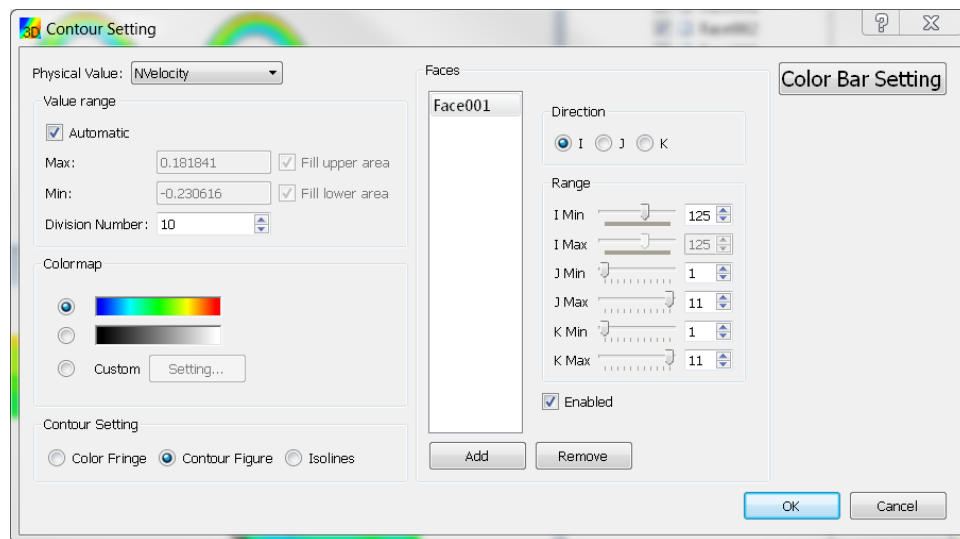

Figure 4. Contour settings for Panel 3.
- Right-click the **iRICZone / Contour** branch of the Object Browser, select the Property pop-up menu and in the Contour Setting dialog create 8 faces oriented in the I Direction. Each I face is set at multiples of 25 (1,25,50,100...) as shown in Figure 4 below.
Following the process in step-2 above for adding cross-sections to the 3D view we'll build a single cross-section as shown in Figure 4. Next add vectors to the cross-section as shown in Figure 5. See if you can arrange the cross-section so that you are viewing head-on from downstream (See Figure 6).